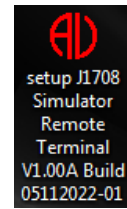

Figure 6-1
1. Double-click the “Au Setup J1708 Simulator Remote Terminal V1.00A Build 05112022-01” application file in the software disc, as shown in Figure 6-1.